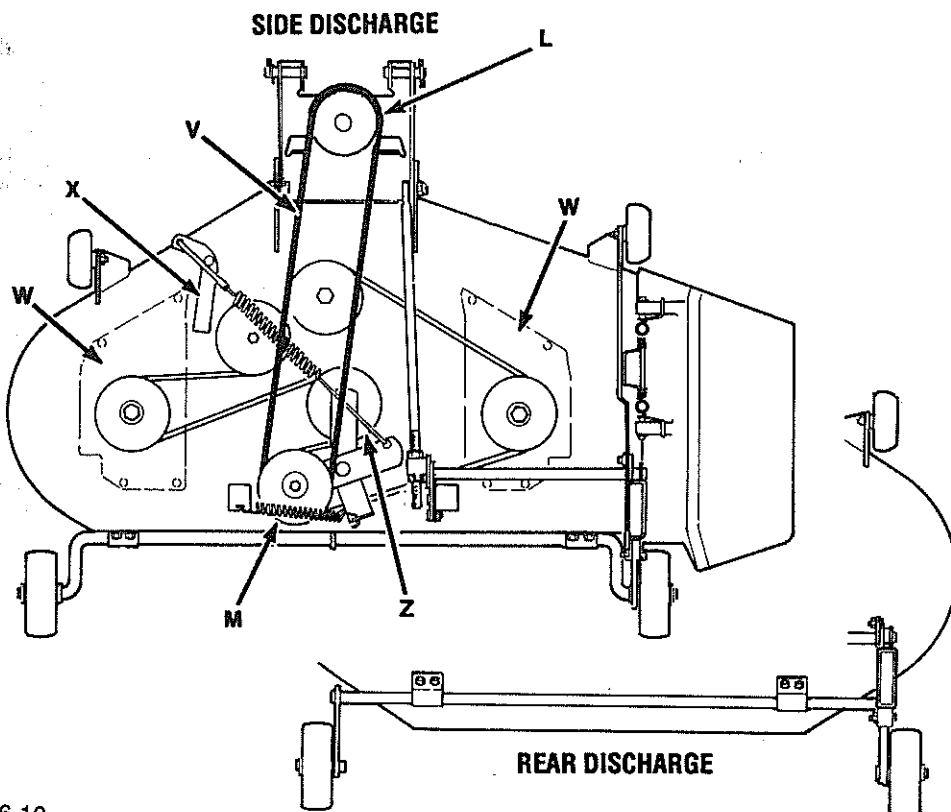

Figure 6-10
1. Relieve belt tension by turning lever (X, Figure 6-10) clockwise.
2. Remove mower drive belt (V) from the PTO sheave (L).
- a. Install belt onto sheaves and pulleys as shown in Figure 6-10. Install belt covers (W).